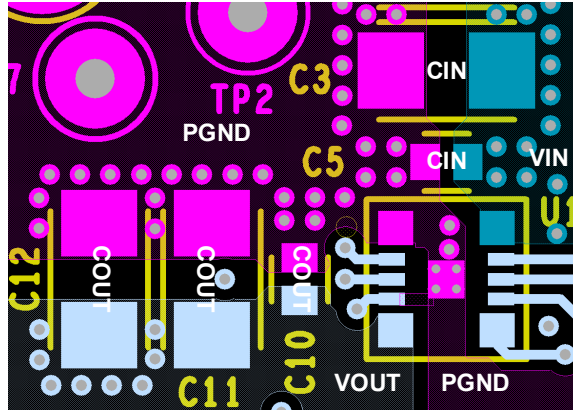
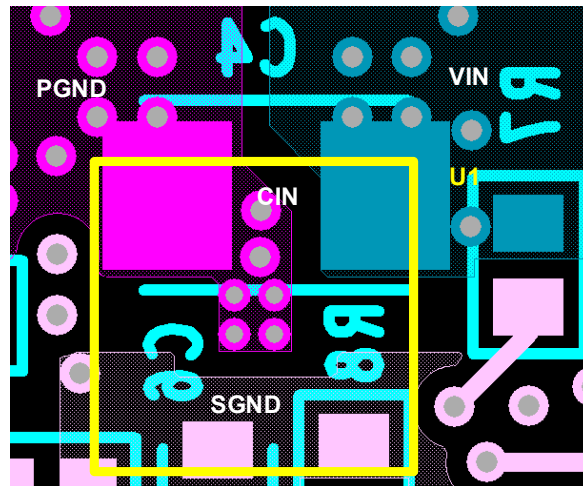

Figure 36. Layout Example - Top Layer
Figure 37. Layout Example - Bottom Layer
- Place the input ceramic capacitors as close as possible to the module input. These ceramic capacitors minimize the high frequency noise by reducing the parasitic inductance of the power loop. Proper placement of these capacitors not only leads to less PHASE node spikes and ringing, but also minimizes the switching noise coupled to the module. Renesas recommends using dielectric X7R or equivalent with a minimum total capacitance of  $44\mu\text{F}$  at the module input. A layout example is shown in Figure 36 and Figure 37.